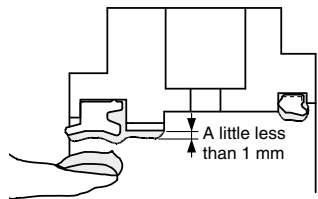

Fig. 6 Rod seal
- Apply grease to the seal and the inner circumference of the bushing. (Fig. 6)